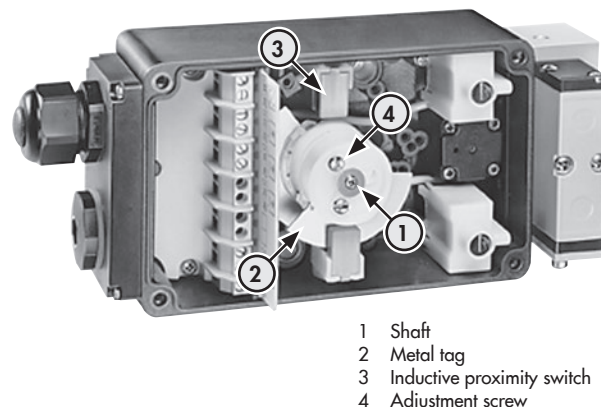

Fig. 2: Inductive proximity switches
The limit switch with inductive proximity switches (Fig. 2) has a maximum of three adjustable metal tags (2) on the shaft (1). When the tag is inside the magnetic field of the proximity switch (3), the proximity switch is attenuated and the output has a high impedance (switching function "Contact open"). When the tag (2) leaves the magnetic field, the proximity switch (3) is unattenuated and the output has a low impedance (switching function "Contact closed"). The tags can be adjusted to a switching point between 0 and 180° at the adjustment screws (4).